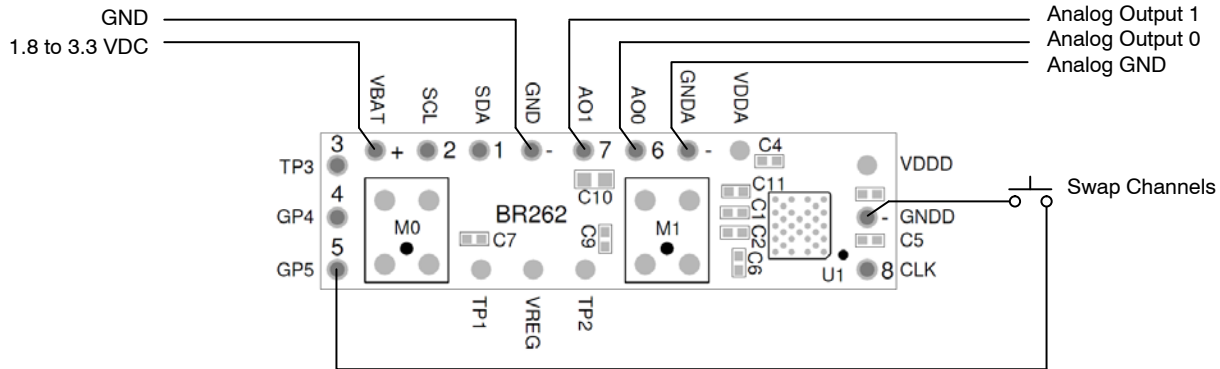

Figure 2. BelaSigna R262 Prototyping Module Typical Connections
The analog output signals are available on AO0 (6), AO1 (7), and GNDA (-). An optional momentary push-button control can be connected between GP5 (5) and GNDD (-) that can be used to swap the two processed outputs between AO0 and AO1. The pinout for the module, along with typical connections are illustrated in Figure 2. The analog outputs of the device can be connected to your system’s analog inputs as single-ended signals using AO0 and GNDA and/or AO1 and GNDA. If the module is re-configured to output a mono, differential analog output by changing the CHAN_SEL resistors R4 and R5, via I²C commands, or by loading a custom application, you can